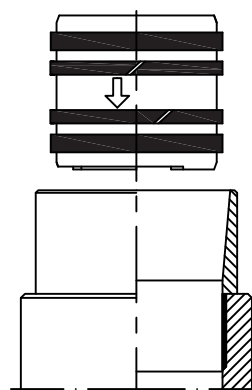

Fig.9
- Position the assembly sleeve (Fig.9) from the end where the piston is to be inserted, and after having lubricated push the piston in towards the internal of the accumulator body.
The sleeve equipment (Fig.9) is necessary to insert the piston into the accumulator after it has been stripped for maintenance (For example, when replacing piston seals) and then re-fitting the piston to the accumulator.